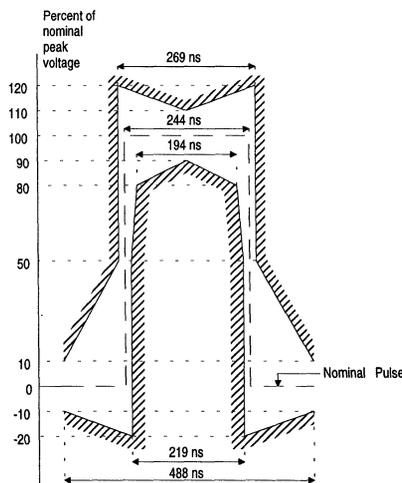

Figure 8. Mask of the Pulse at the 2048 kbps Interface
- This amplitude is measured at the output of the transformer for line length setting LEN2/1/0 = 000 (see Figure 8) with a 4.4 Ω resistor in series with TTIP.
Note that for LEN2/1/0=000, the transmitter pulse width is determined by the high time of TCLK. The pulse will meet the CCITT pulse shape template shown in Figure 8, and specified in Table 2, assuming the TCLK duty cycle and frequency are appropriate.